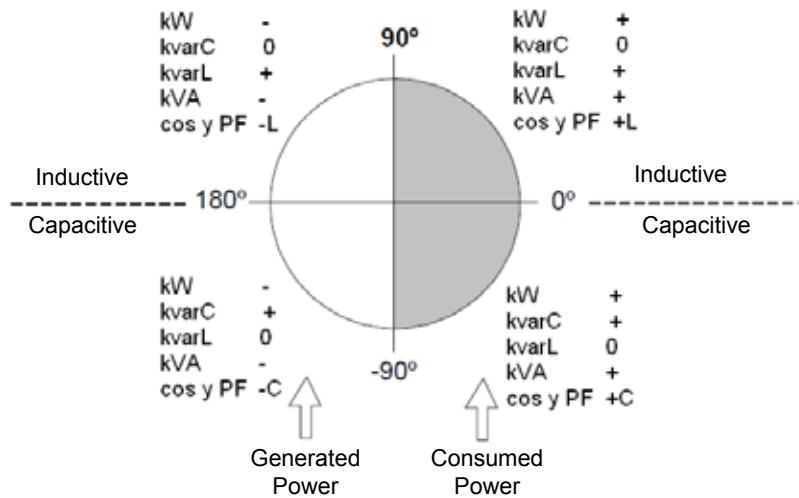

Figure 17: Diagram of the four measurement and compensation quadrants.
(1) The **cosφ** and **Power factor** parameters are accompanied by the **kW sign** and **kva sign** parameters, which are used to determine the quadrant in which each phase is being measured. See **Figure 17**.